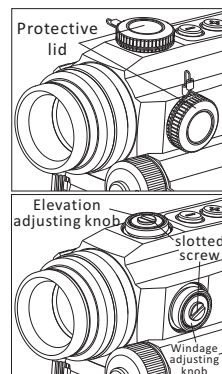

Fig6
1. On top of sight is the elevation adjusting knob, windage adjusting knob is on the right side (see Fig6) . The sight has been primarily adjusted in factory.